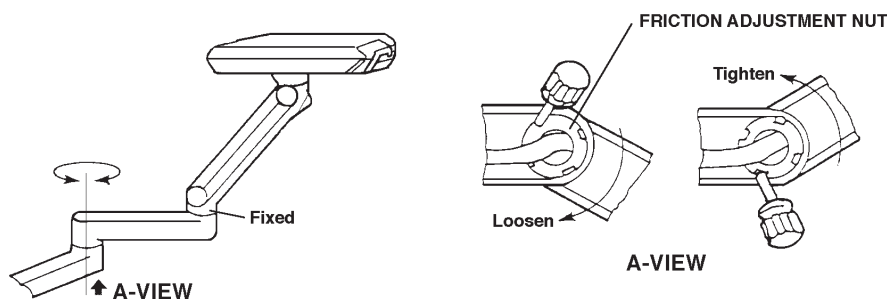

Fig.3-14 Friction adjustment of Horizontal Arm
(9) Friction Adjustment Nut of Horizontal Arm (Fig.3-14)